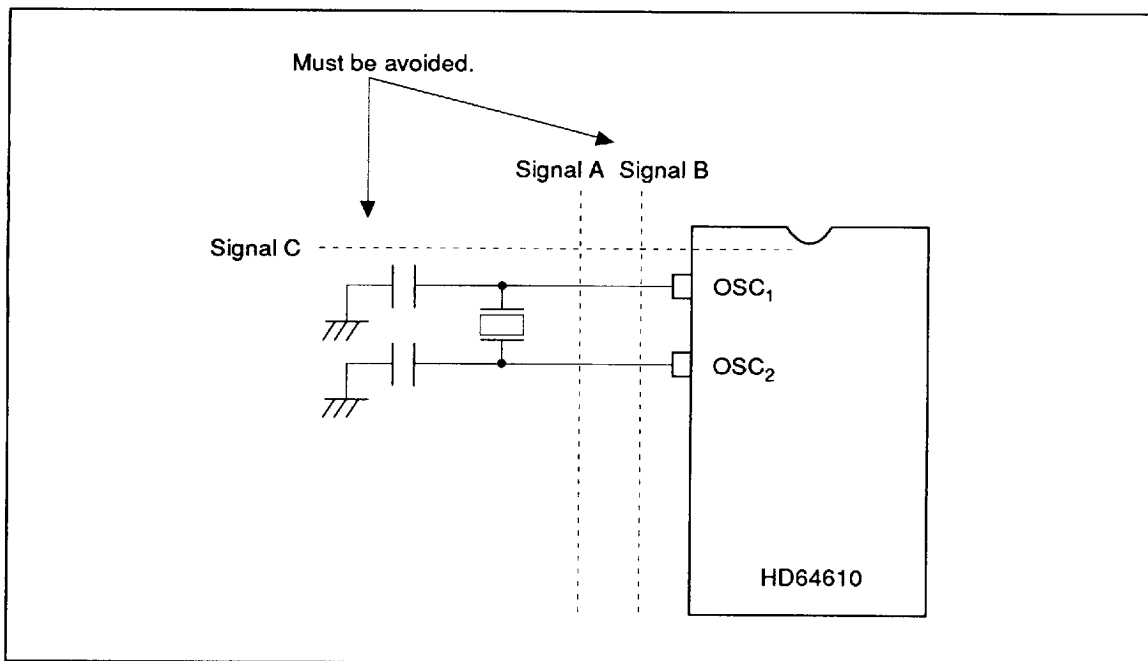

Figure 8 Signal Layout to be Avoided
2. The crystal resonator, OSC₁ and OSC₂ must be separated from power lines other than GND and signal lines as much as possible as shown in figure 8.